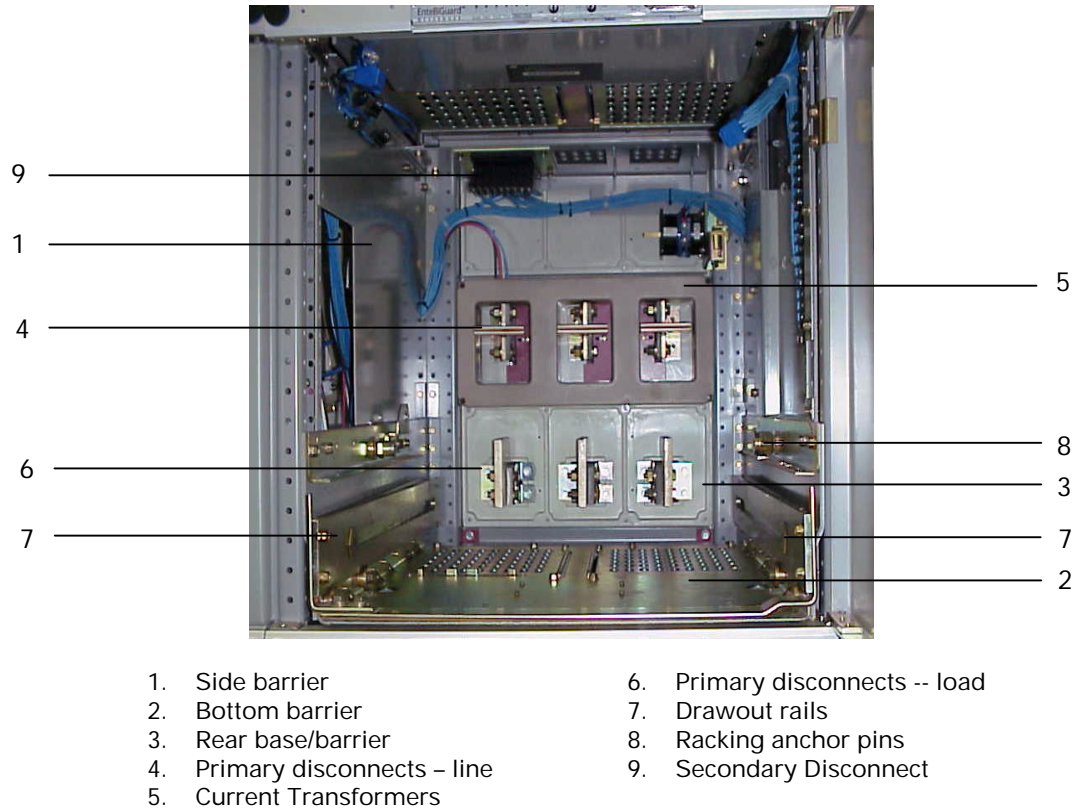
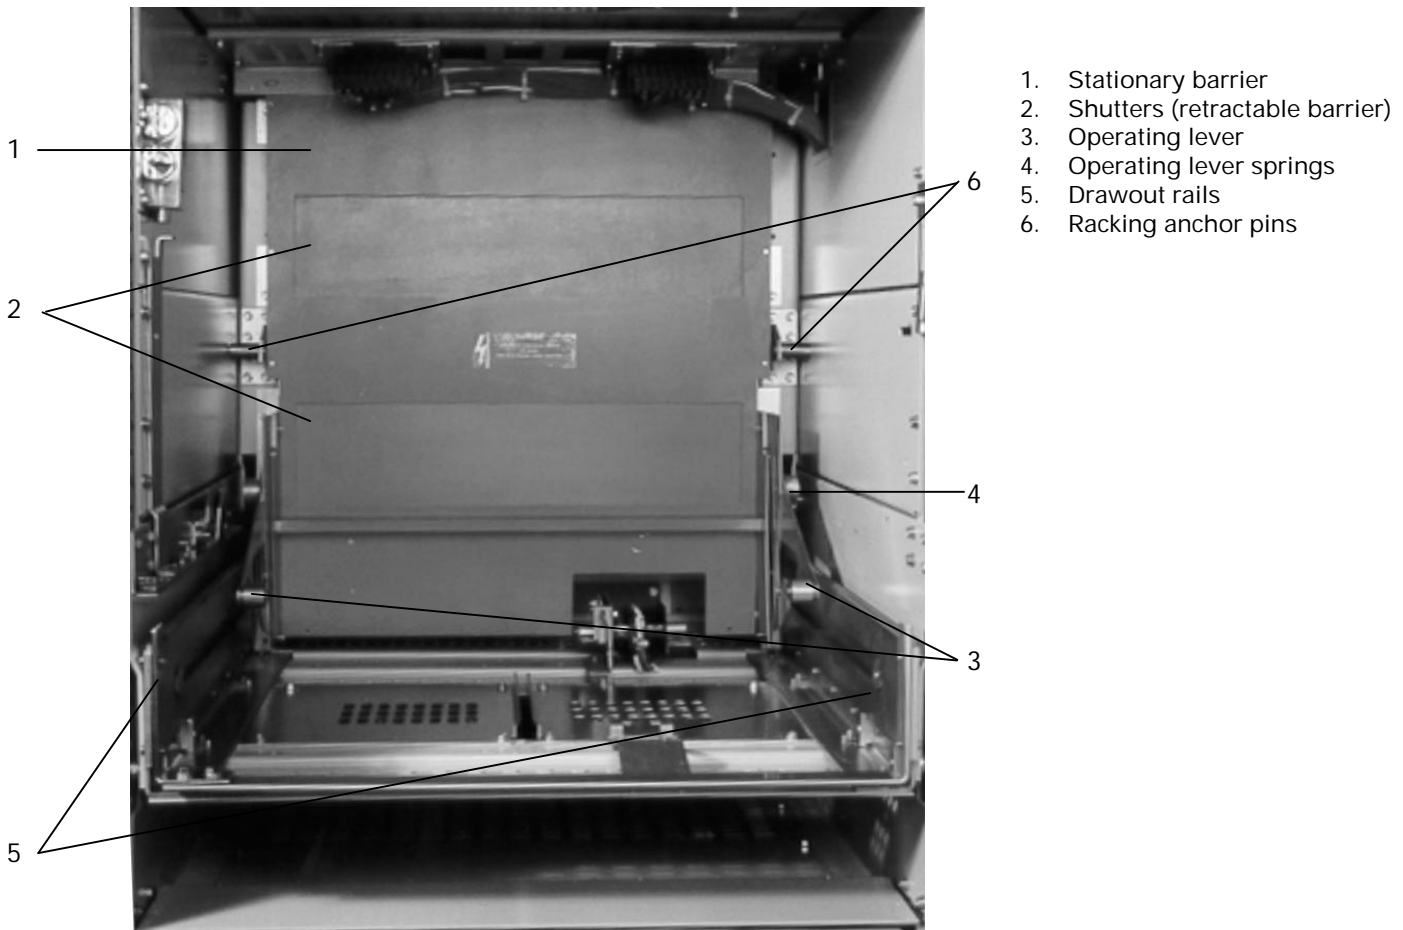

Fig. 3-5 Circuit breaker compartment (22-inch)
Fig. 3-6. Circuit breaker compartment (30-inch wide) with shutters
Additionally, the breaker compartment, Fig. 3-5, is enclosed by grounded steel barriers on the top, sides, bottom, and front. In the back, a flame-retardant, track resistant, glass-filled polyester base minimizes the possibility of fault communication between compartments or to the bus.
Circuit breakers mounted in 22-inch wide compartments (EG-08, EG-16, EG-20) are supported on drawout rails (7), Fig. 3-5. Larger EG-32 and EG-40 circuit breakers and fuse rollout carriages are installed in 30-inch wide compartments and are supported on drawout rails (5), Fig. 3-6. The EG-50 circuit breaker is installed in a 38-inch wide compartment and is supported on drawout rails (similar to Item 5, Fig. 3-6).
The breaker racking arm slots engage fixed racking anchor pins (6), Fig. 3-6, mounted in the breaker compartment. As the racking arms are rotated by operation of the breaker racking crank, the breaker is pulled into the compartment, and locked in its final connected position.